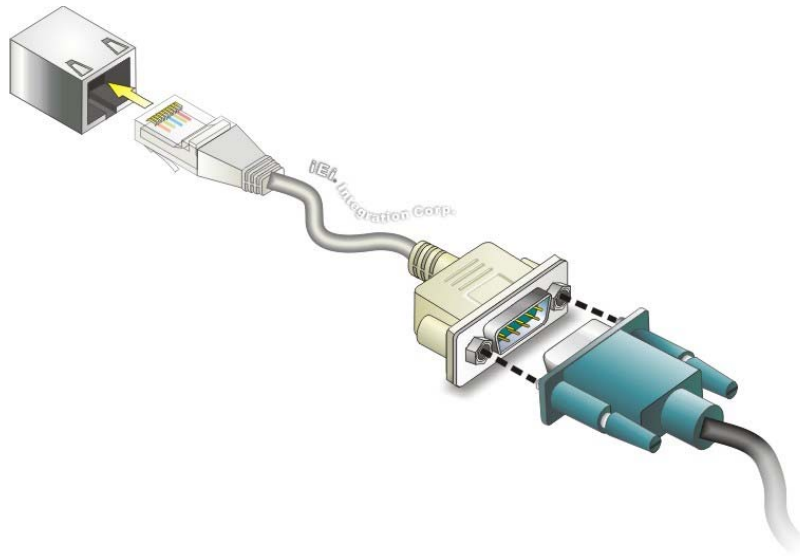

Figure 3-14: Serial Device Connector
Step 2: Insert the RJ-45 to D-sub 9 cable. See **Figure 3-14**.